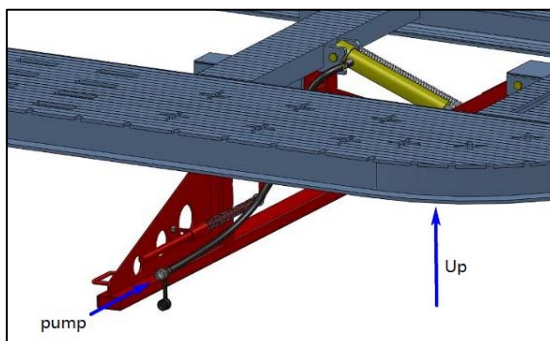

Figure 6.28
B. Connect the pneumatic pump with the air compressor (0.5-0.8Mpa), then connect the oil tube of the pump together with the lift support cylinder. Then operate the pump to up raise the platform till the movable support can swing freely. See figure 6.28